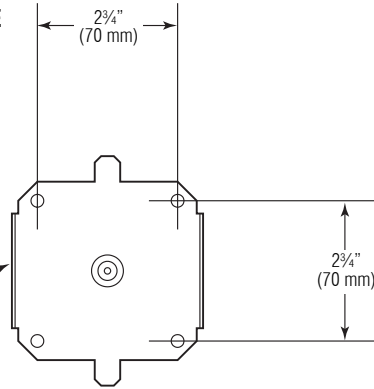

Figure 5
Using Wall Mounting Plate as a template, mark mounting hole locations on wall as illustrated in Figure 5. Remove Wall Mounting Plate and drill a 5/16" (8 mm) hole at each of the four (4) locations marked.
Install Wall Mounting Plate to wall using supplied Wall Anchors, Screws and Washers as instructed in the Sensor Location section found on the previous page of this installation instructions. Also refer to Figure 5.